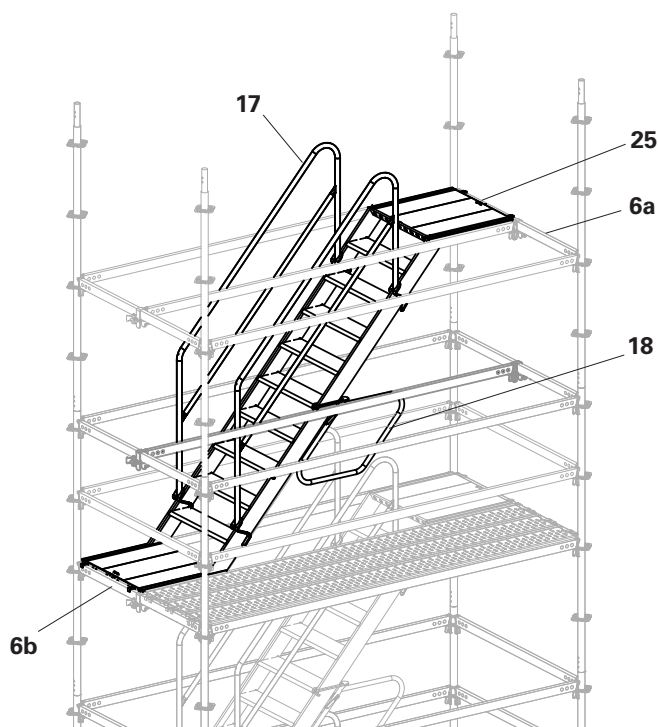

Fig. A5.02
3. From the back of the stair, fit Stair Guardrail UAH-2 (**18**) with upper suspension (**18.1**) onto the 5th step from the top. Swing out the locking pin (**18.2**) and pull it down between the stair tower and the stair guardrail. (Fig. A5.02)